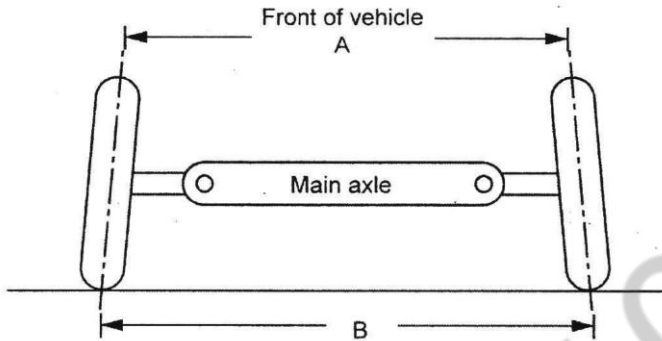

Figure 4.11 Toe-in
Usually, front wheels are slightly turned to the front side. It means, the distance (A) between front ends is slightly less than distance (B) between back ends when it is viewed from top as shown in figure 4.11. Then the wheels are said to be toe-in.